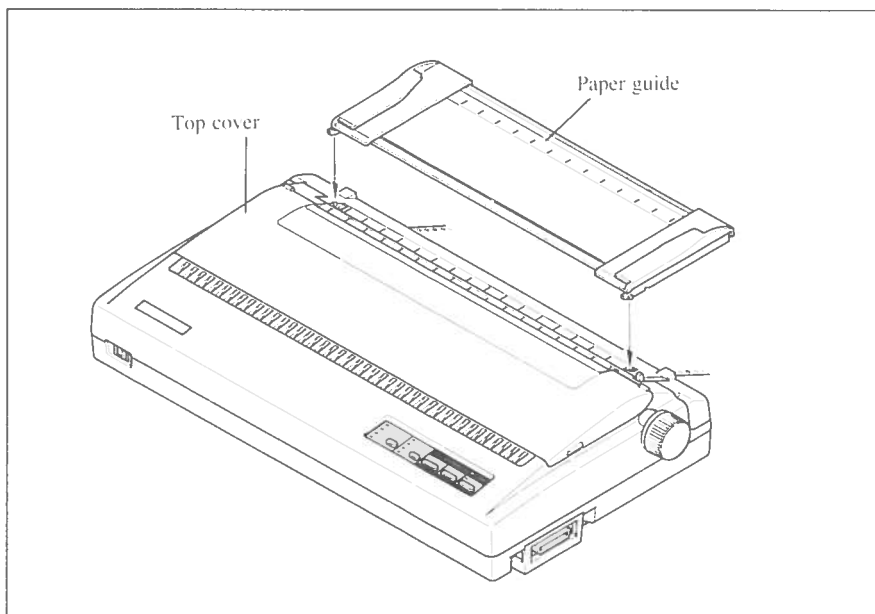

Figure 1-13. Mounting the paper guide for fanfold forms
12. Mount the paper guide in the horizontal position shown in Figure 1-13, so that it will separate the printed from the unprinted paper.